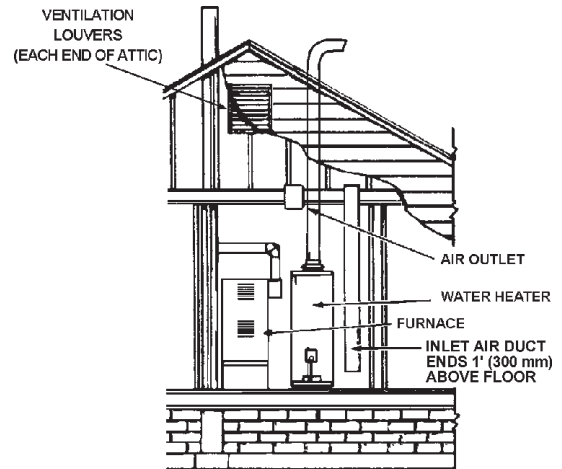

FIGURE 8.
2. When communicating with the outdoors through vertical ducts, each opening shall have a minimum free area of 1 square inch per 4,000 Btu per hour (5.5 cm²/kW) of total input rating of all equipment in the enclosure, see Figure 8.